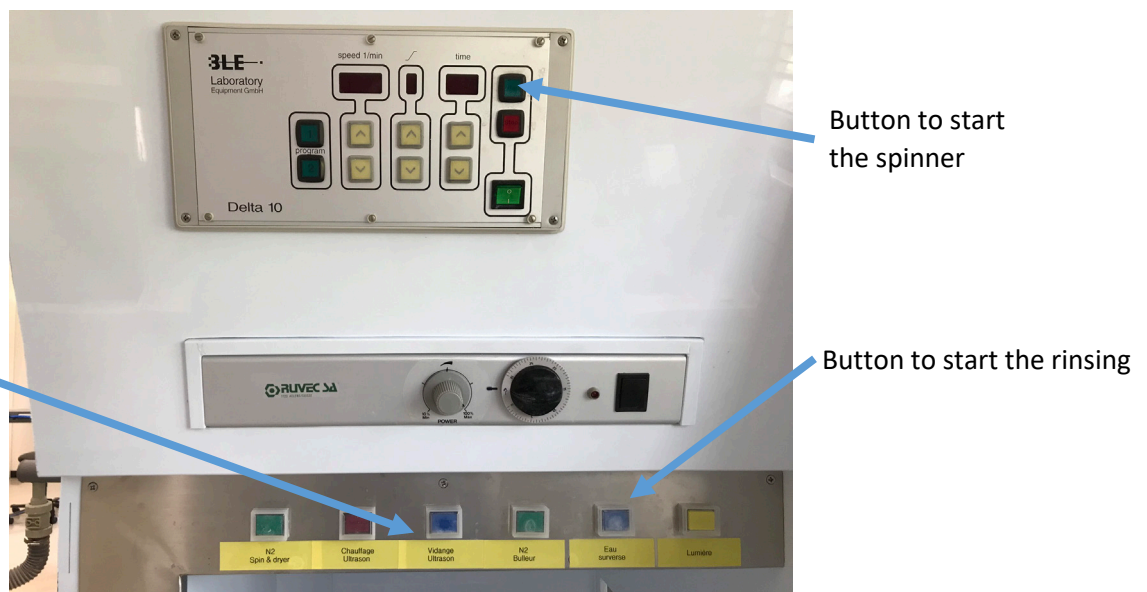

Fig. 13 : Controls for rinsing tank
- g) Rinse the wafer in the water tank : place in the cassette and turn the water on (Fig. 13), with or without tank draining. When done, place the wafer in the spinner for drying, close it and turn it on.